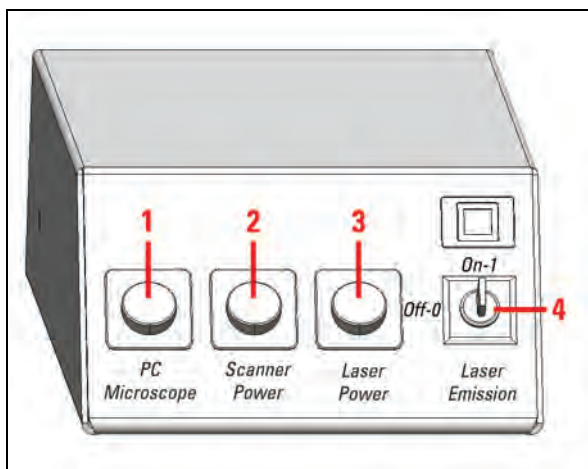

Figure 200: Overview of the main switch board on the flexible supply unit
4. Turn off the lasers in the supply unit with the key switch on the main switch board of the flexible supply unit (see **Figure 200, item 4**).
14. Switch off the lasers (see **Figure 200, item 3**), the scan head (see **Figure 200, item 2**), the workstation and the microscope (see **Figure 200, item 1**) on the flexible supply unit's main switch board.